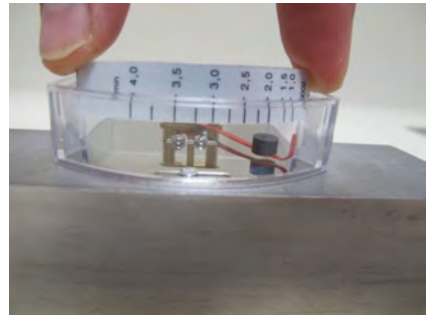

Fig. 70
17. ▶ Slide the scale holder (with the affixed scale) into the guide of the plastic housing. (Fig. 70). Note direction of flow (lower scale value toward the input side of the device).